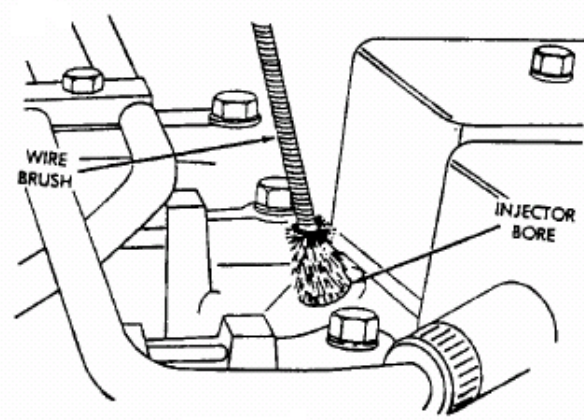

Fig 5: Cleaning Cylinder Head Injector Bore
- 1: Clean the injector cylinder head bore with special Cummins wire brush tool or equivalent (Fig 5)